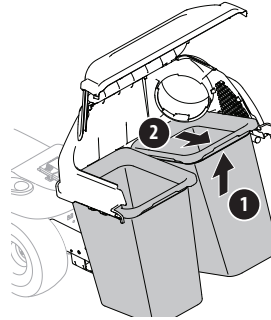

Figure 25
3. Remove the grass bags by lifting these up (1) in Figure 25 and moving the bags away from the bag support assembly (2).